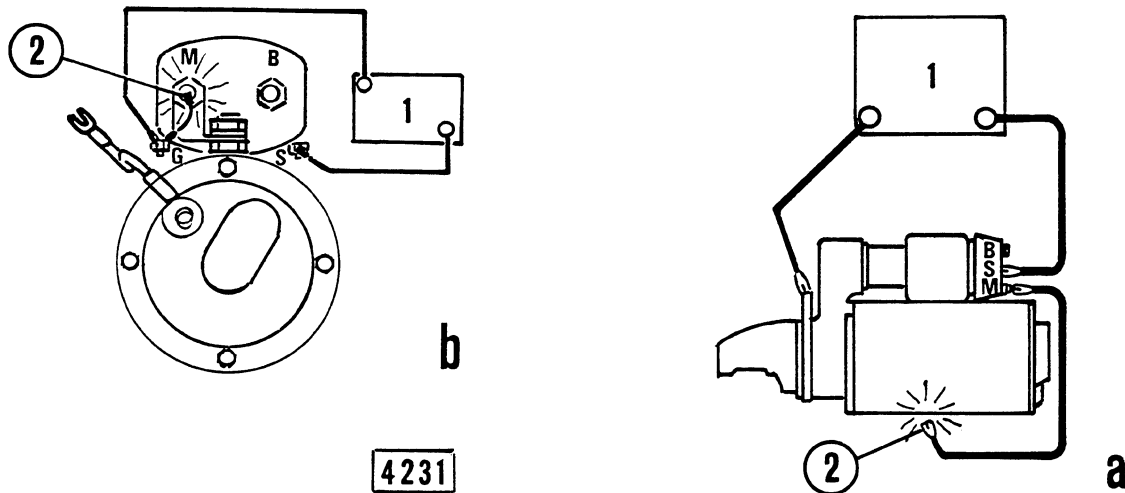

Fig. 3-81 - Pinion clearance check wiring circuit.
- Make connections as shown in Fig. 3-81, leaving contact (2) disconnected. This way, only the hold-in winding is energized.